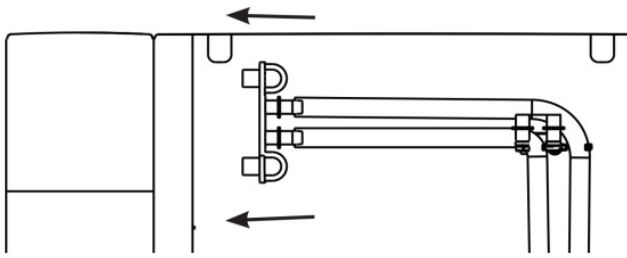

Figure 5
9. Unhook the top of the drain hoses at the back of the unit. See figure 5.